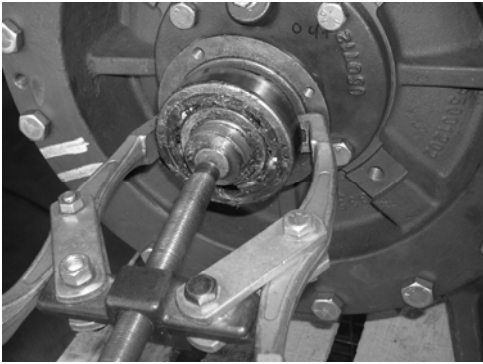
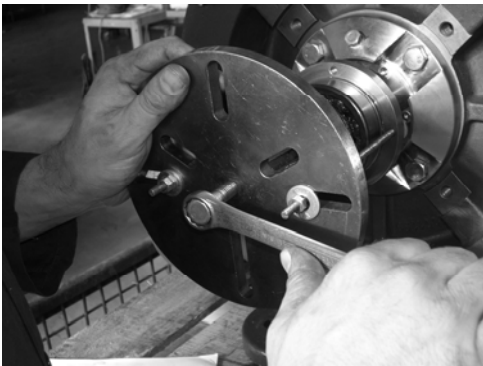
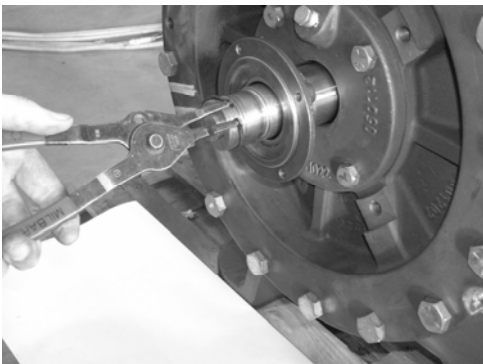

Figure 25: Removing the Bearing Using Pullers
Figure 26: Removing the Bearing Using a Universal Kit
Figure 27: Removing the Bearing Backup Ring (2" Frames Only)
7. Remove the bearing with pullers. (See Figure 25.) A universal fixture kit (part number AC2394) may also be used. (See Figure 26.) The universal fixture kit should not be used on pumps with 2" frames as the bearing backup ring may damage the bearing cap's lip seal. (See Figure 27 for a listing of pump sizes with 2" frames.)
8. For 2" frames only: remove the bearing backup ring. (See Figure 27.) (See Figure 22 for a listing of pump sizes with 2" frames.)